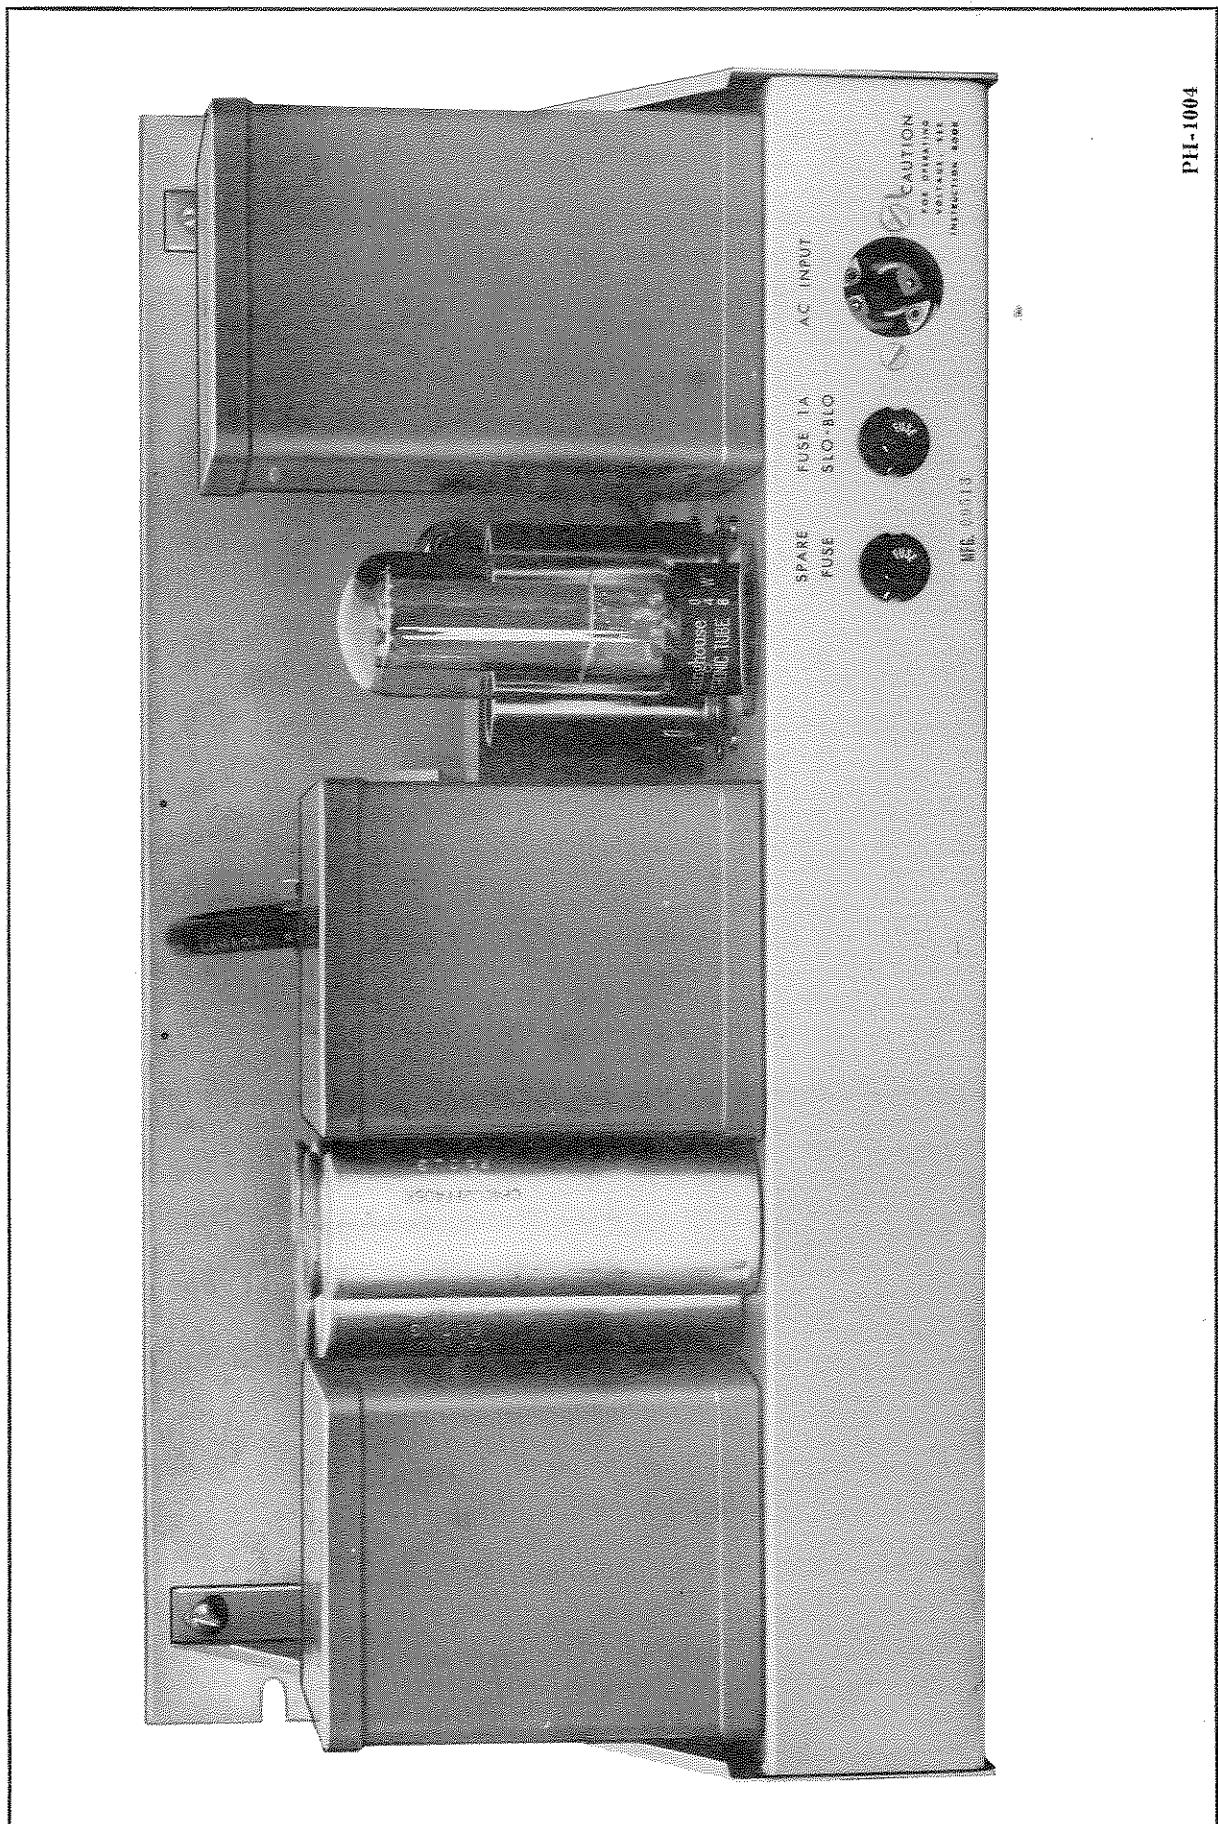

Figure 1-4. REAR VIEW, AMC 6-2
b. The Model AMC 6-2 is intended for rack mounting. It is provided with a standard rack panel (as shown in Figure 1-1) which measures  $8\frac{3}{4}$  inches in height and 19 inches in width. The only front panel controls are the power ON/OFF switch and the FILTER IN/OUT switch. All coaxial jacks carrying RF signals to or from the unit are available on the front panel. (On special order, the unit can be supplied with the output jacks in the rear.) An additional coaxial jack is available immediately behind the front panel where a rear antenna connection is required. A chassis which mounts the main electrical components is shown in Figures 1-2 and 1-3. It is held securely to the front panel by side brackets and occupies a rack depth of 11 inches. The DC power supply occupies the rear half of the chassis while the broad-band amplifier circuit occupies the front half. Power to the unit enters a socket on the rear apron of the chassis as shown in Figure 1-4, while the main power fuse is located immediately to the left of this socket. Total weight of the unit is 37 pounds.